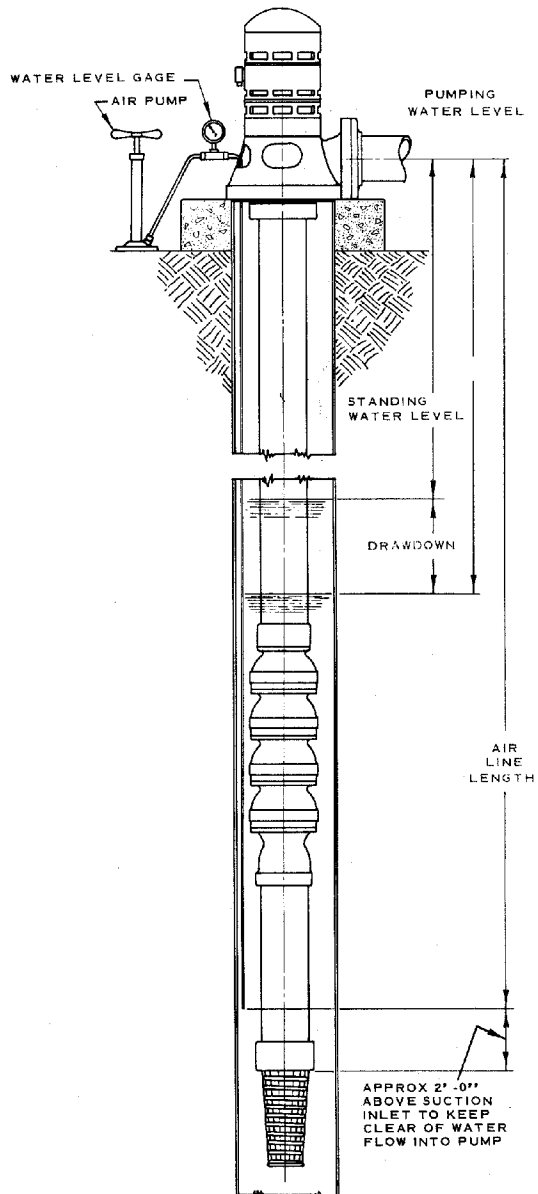

Fig. 18-3. Air Pressure Water Level Testing System.
F. Connect a suitable source of air pressure to the air line at the tee. A hand pump, as shown in Fig. 18-3, is satisfactory.
H. Standing (static) water level readings are taken before starting the pump or after a shut-down period long enough to allow the water level in the well to normalize. Drawdown (pumping level) readings are taken after the pump has operated against normal head for a period sufficient to draw the water level down to the maximum depth. (See Fig. 18-3.)